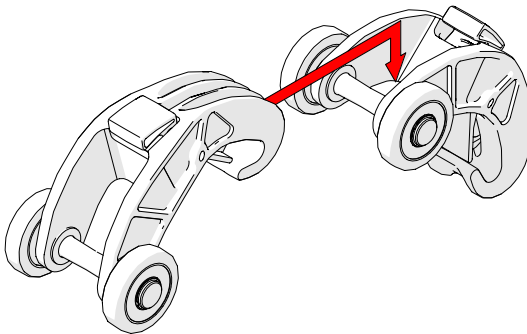

Fig. 95 - Lift the hook over the axle of the link
1. Lift the hook of the short link over the axle of the short link that is to be connected (Fig. 95).